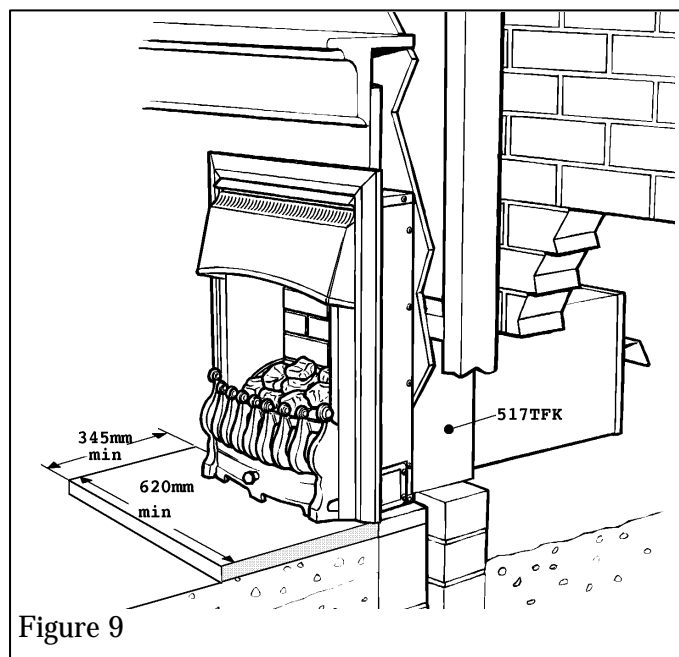

Figure 9
## 5.4 TIMBER FRAME BUILDING. CONVECTION BOX IN FRONT OF WALL (Figures 9 & 9a)
**5.4.3.** The non-combustible hearth must project at least 345mm in front of the convection box front flanges and be at least 620mm wide (Figure 9). For this type of installation the hearth must be at least 50mm thick over its total area. Kit 517TFK is
**5.4.10** A sloping plate should be fitted above the clearance kit in accordance with The Institute of Gas Engineers publication IGE/UP/7 "Gas installations in timber frame buildings". Section 8.2.1.7. See figures 9 & 9a.